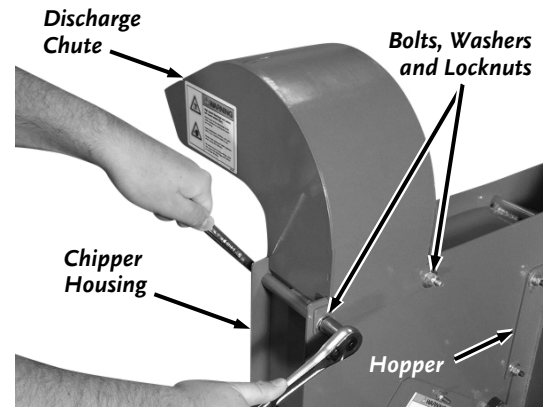

Figure 17
1. Position the Discharge Chute facing away from the Hopper as shown and secure with two 4-1/2" long 5/16-18 Bolts, Washers (one Washer on Bolt side and one on Locknut side) and Locknuts using two 1/2" Wrenches (Figure 17).